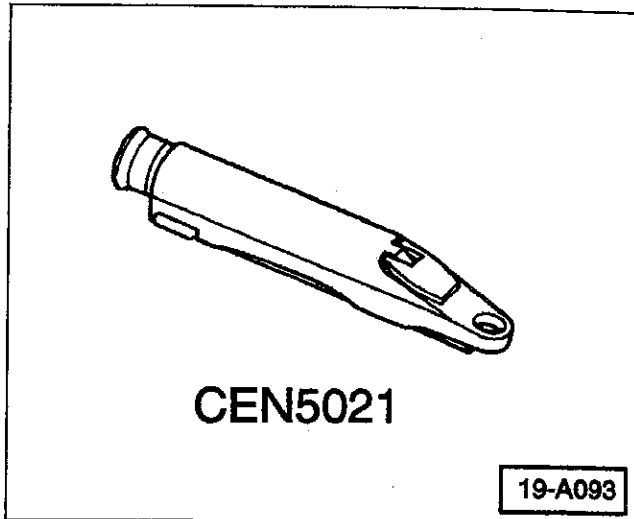

Fig. 3. Anti-freeze tester, VW special tool CEN5021.
1. Using a refractometer (VW tool CEN5021), take a small amount of coolant and place it onto the measuring prism. See Fig. 3.